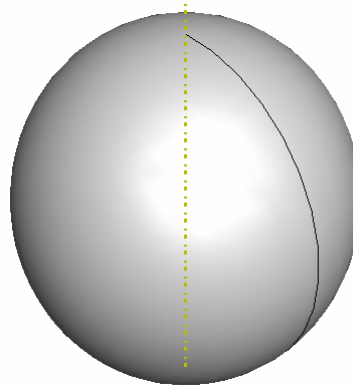

Figure W-16
22. In the **Edit Revolution** window enter angle as **360** degrees and press **Ok** to obtain part shown in Figure W-16.